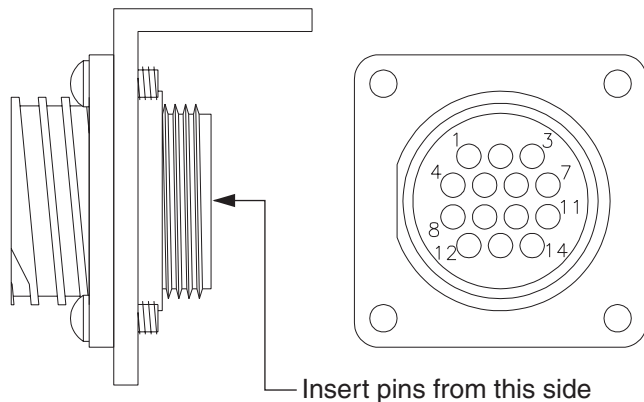

Figure 28
22. Insert each of the 10 socket-type terminals into the connector housing. **(See Figure 28.)**